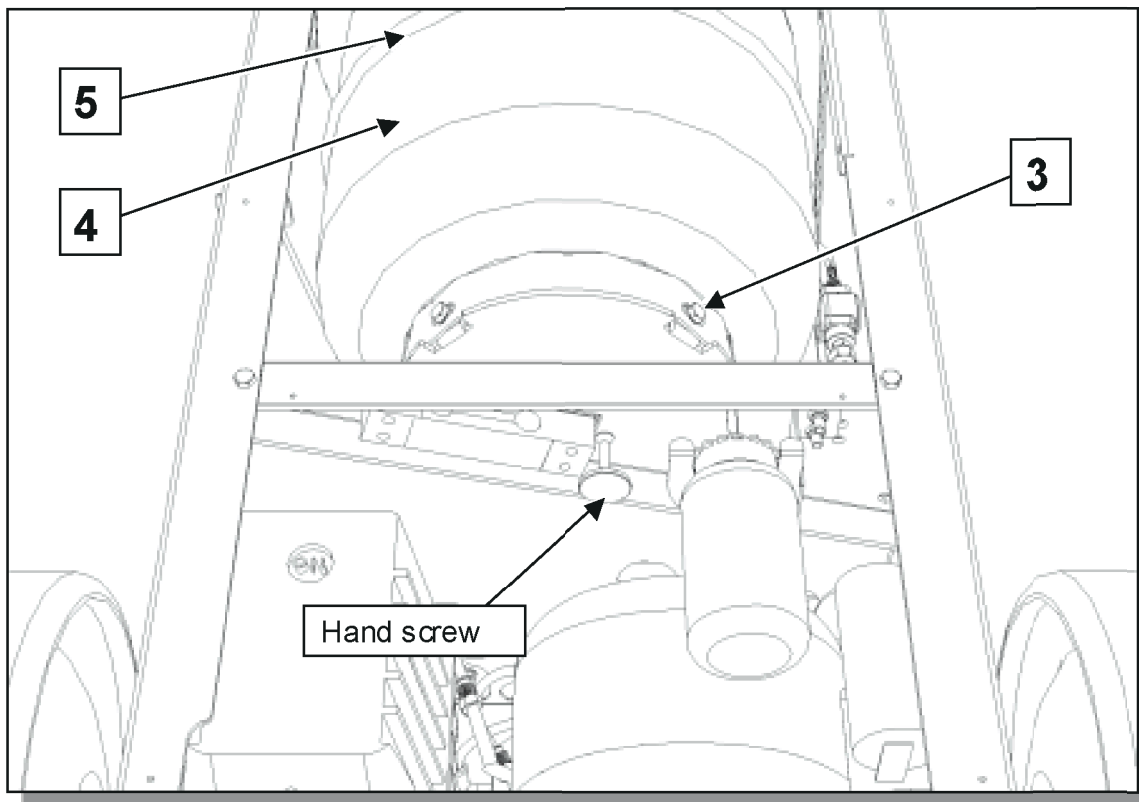

Fig.9: load cell protection
3. Loosen the scale hand screw (see Figure 9) that is under the scale platform. It is tightened to prevent damage to the scale during shipment. Turn counter clockwise six full turns. *Note: If you do not loosen the scale hand screw under the scale platform, the scale will remain inoperable.*